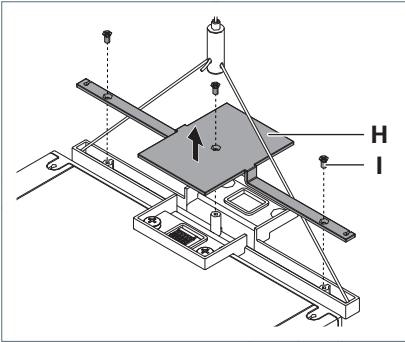

Fig. 13: Removing the cover.
- Unscrew three screws **I** from the cover **H** on the connecting element of the last mounted luminaire, see Fig. 13.